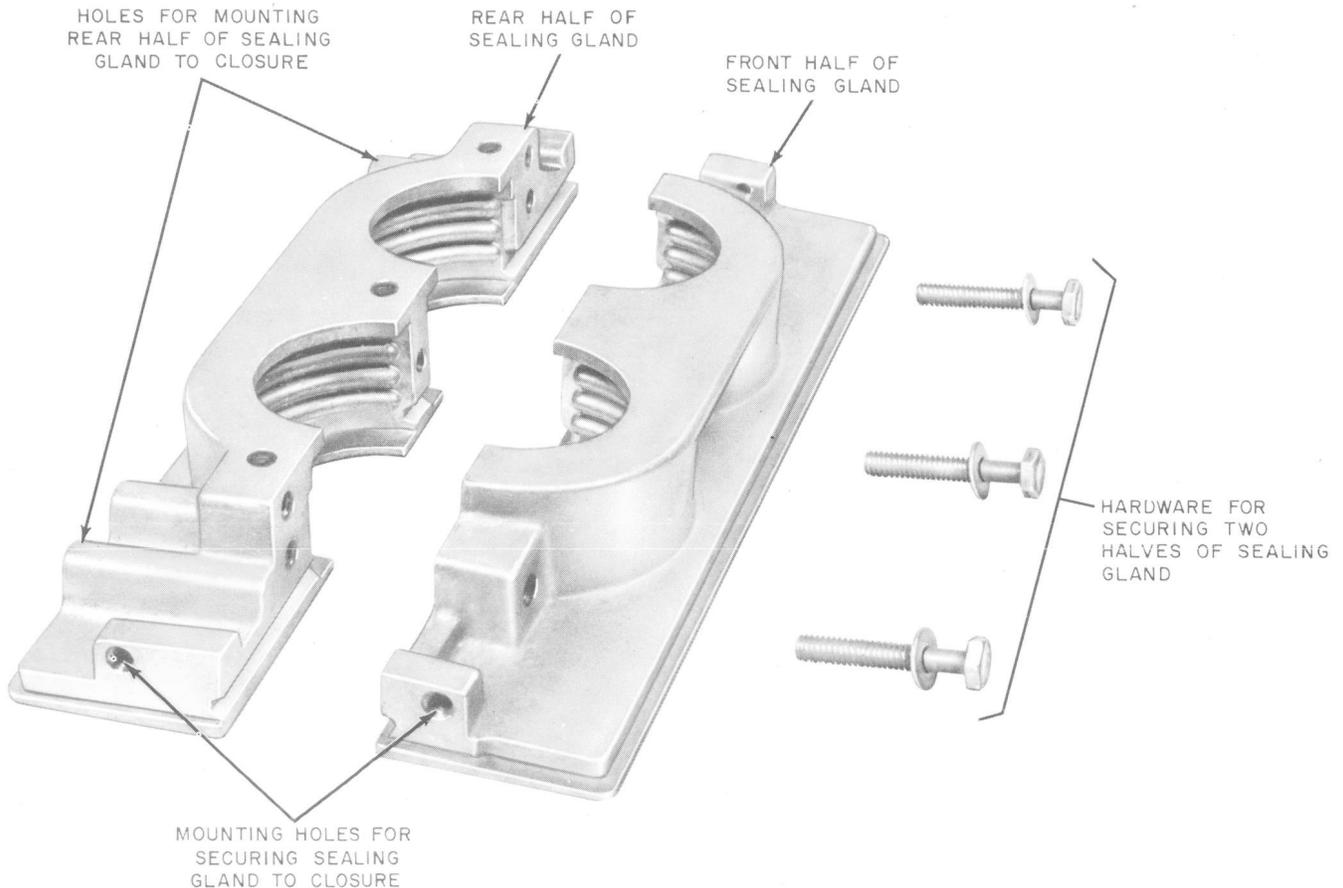

Fig. 15—196B Adapter
- (a) A 196B adapter assembly (Fig. 15) that will accommodate PIC cables up to 2.0 inches in diameter.